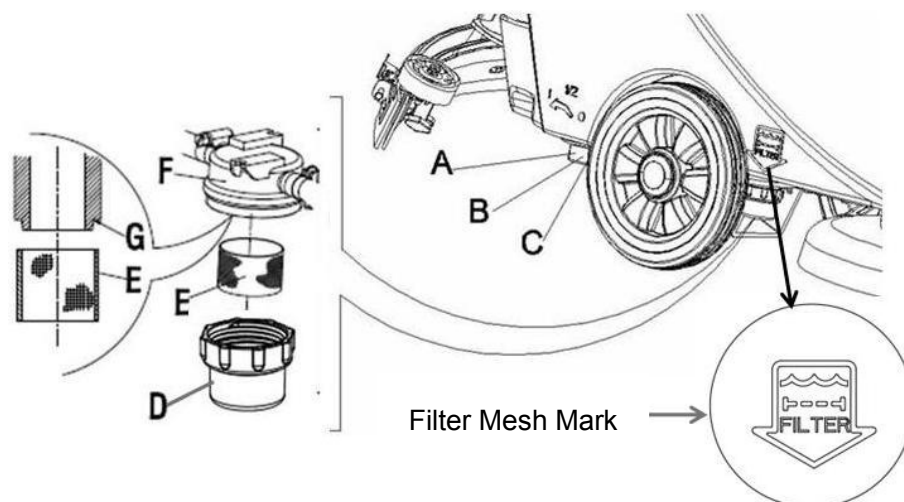

Figure 17
3. Press the power switch (41) to the "O" position to turn off the machine.
4. Turn off the draining ball valve (A, Figure 17) (located at the bottom of the machine, behind the wheels). Position B ball valve open, and position C ball valve closed.
5. Take off the transparent lid (D), and then take off the filter (E), and install them onto the filter box (F) after cleaning.